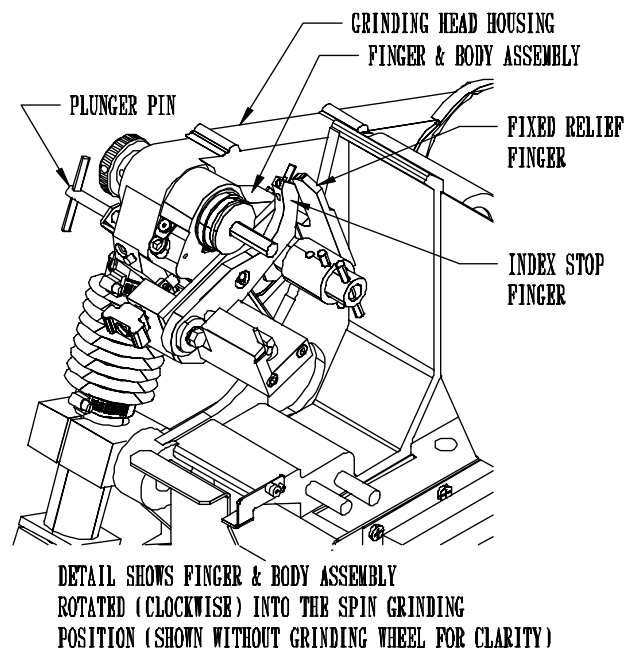
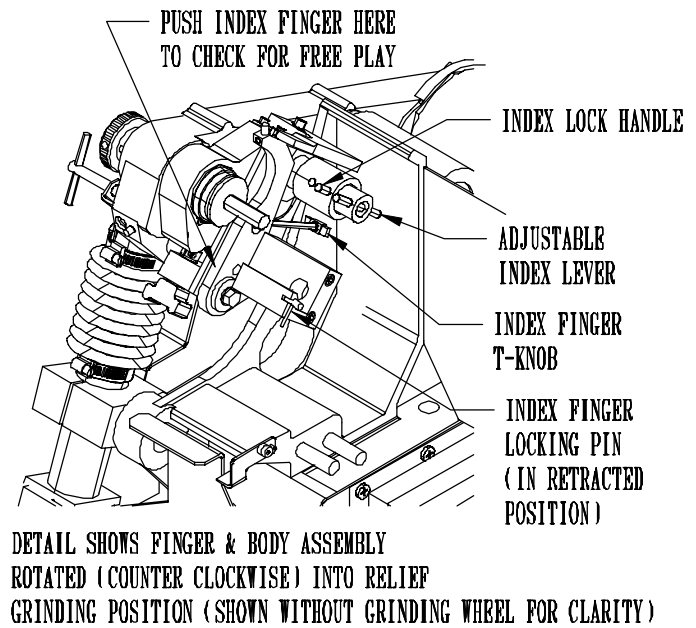

FIG. 5
FIG. 6
The Finger and Body Assembly of the grinding head rotates on the Grinding Head Housing to change positions between spin grinding and relief grinding. To change the position of the finger and Body Assembly you have to pull out the Plunger Pin on the left side of the Grinding Head Housing. See FIG. 5. When you are going to perform spin grinding operations the Finger and Body Assembly must be rotated clockwise (looking at it from the right). This rotates the fingers out of the reel blade path. See FIG. 5. When you are going to perform relief grinding operations the Finger and Body Assembly must be rotated counter clockwise. This rotates the finger into position to touch and control the reel blades. See FIG. 6
The Finger and Body Assembly includes two fingers. See FIG. 5. The Fixed Relief Finger is equivalent to the Relief Fingers on other relief grinders. When relief grinding the Movable Index Stop Finger moves from the Relief Finger Side (back side) of the reel blade when traversing from right to left to the grinding wheel side (front side) of the reel blade when traversing from left to right. This feature allows the fully Automatic Relief function. When performing relief grinding operations it is important to have the Index Stop Finger adjusted properly.
STEP 1: Once you have the Grinding Head positioned with a reel blade resting on the Fixed Relief Finger high point, you want about 1/32" [.8mm) to 1/16" [1.5mm) free play of the Index Finger behind the reel blade. The Index Finger is spring loaded to the up position. To check free play, push down on the Index Finger. See FIG. 6. To make this adjustment you have to first turn the Index Lock Handle counter clockwise to unlock the adjustable Index Lever. See FIG. 6. If there is no free play of the Index Finger you want to rotate the Adjustable Index Lever clockwise. If there is more than 1/16" [1.5 mm) free play you want to rotate the Adjustable Index Lever counterclockwise. When the Index Finger is in proper position rotate the Index Lock Handle clockwise to lock the Adjustable Index Lever.
The up travel limit is restricted to keep the Index Finger in the reel blade index path. This is done to properly catch the next blade when indexing or to allow clearance between the back side of the Index Finger and the front side of the blade when the grinding carriage is making its return trip to the home position. If the Index Finger has problems catching the next blade turn the Index Finger T-knob counterclockwise. If there isn't enough clearance between the back side of the Index Finger and the front side of the reel blade turn the Index Finger T-Knob clockwise. See FIG. 6. Adjust the T-knob in by 1/8" (3mm) into the hole opening so the up travel is restricted. Check the up and down swing of the Index Finger for clearance on both sides of the reel blade for the relief grind.